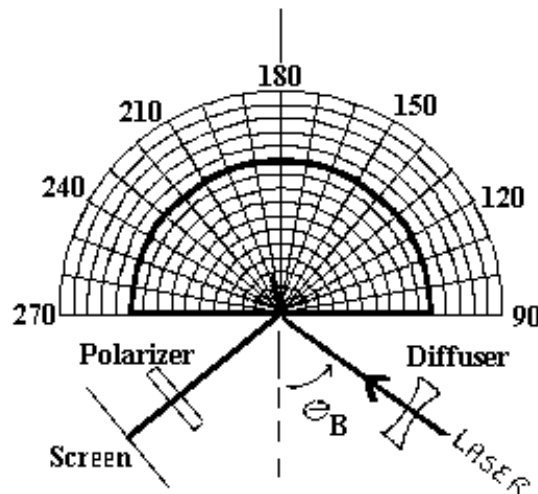

Figure 3: Brewster's Angle Setup
- Move the Lucite sample on the compass board as shown in Figure 3. The diffusing lens is optional, but does make the laser spot bigger. By rotating the polarizer and looking for beam extinction, find the angle where the reflected beam is totally polarized. Determine the index of refraction of Lucite.